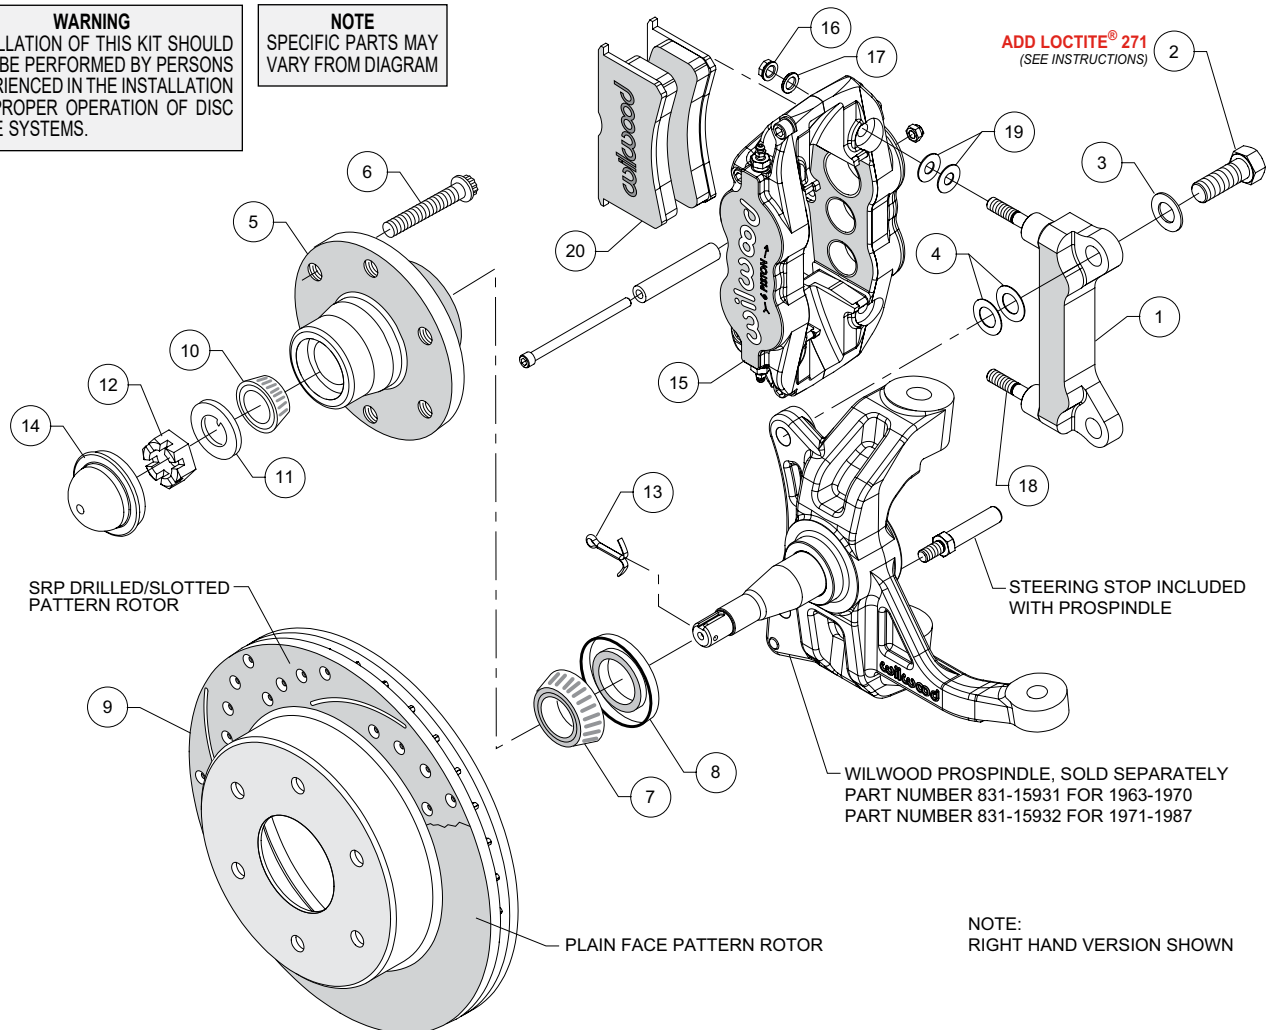

Figure 1. Typical Installation Configuration
Assembly Instructions (numbers in parenthesis refer to the parts list and Figure 1 on the preceding pages):
- Install the steering stop bolt (included with the ProSpindle) into the spindle as shown in Figure 1 and Photo 1. Torque to 25 ft-lbs.
- The caliper mount bracket (1) should initially be installed with clean, dry threads on the mounting bolts. Orient the bracket, as shown in Figure 1 and Photo 2, and install using bolts (2) and washers (3). Initially place two .024" thick shim (4) on each bolt between the bracket and spindle, Figure 1. Temporarily tighten the mounting bolts. **NOTE: The bracket must fit squarely against the mount bosses on the spindle.** Inspect for interference from casting irregularities, machining ridges, burrs, etc. Later, after the caliper alignment has been checked, the mount bolts will be secured using red *Loctite*® 271.
- Install wheel studs (6) into the hub (5), Photo 3. Torque to 77 ft-lb.
- Pack the large inner bearing cone (7) with high temperature disc brake bearing grease (available from your local auto parts store) and install into the backside of the hub (5), Photo 4.
- Install the grease seal (8) by pressing into the backside of the hub (5), flush with the end of the hub, Photo 5.
- Pack the small outer bearing cone (10) with high temperature disc brake bearing grease and install into hub (5). Slide the hub assembly onto the spindle. Secure using spindle washer (11) and spindle nut (12), Photo 6. Adjust bearings per OEM specifications. Install a new cotter pin (13).
- Press the dust cap (14) into the hub (5). **NOTE: Do not hammer center of cap. Install using outer flange only.**
- Slide the hat/rotor (9) onto the hub (5), Photo 7. **NOTE: The hat must fit flush against the hub face or excessive rotor run out may result.** Install three lug nuts (finger tight) to keep the hat/rotor in place while continuing with the installation, Photo 7.
- **NOTE: This kit contains distinct right and left hand calipers that must be mounted in a specific direction, as described below.** Initially place two .035" thick shims (19) on each stud (18) between the caliper and the bracket, as shown in Figure 1 and Photo 8. Mount the caliper (15) onto the bracket (1) using lock nuts (16) and washers (17), Figure 1. Temporarily tighten the lock nuts. Ensure that the caliper is mounted so that the largest pistons are at the rotor exit end of the caliper, in relation to the direction of rotor rotation. View the rotor through the top opening of the caliper. The rotor should be centered in the caliper, Photo 9. If not, adjust by adding or subtracting shims (4) between the bracket and the spindle. Always use the same amount of shims on each of the two mounting bolts. Once the caliper alignment is correct, remove the bracket mounting bolts one at a time, apply red *Loctite*® 271 to the threads, and torque to 140 ft-lb.